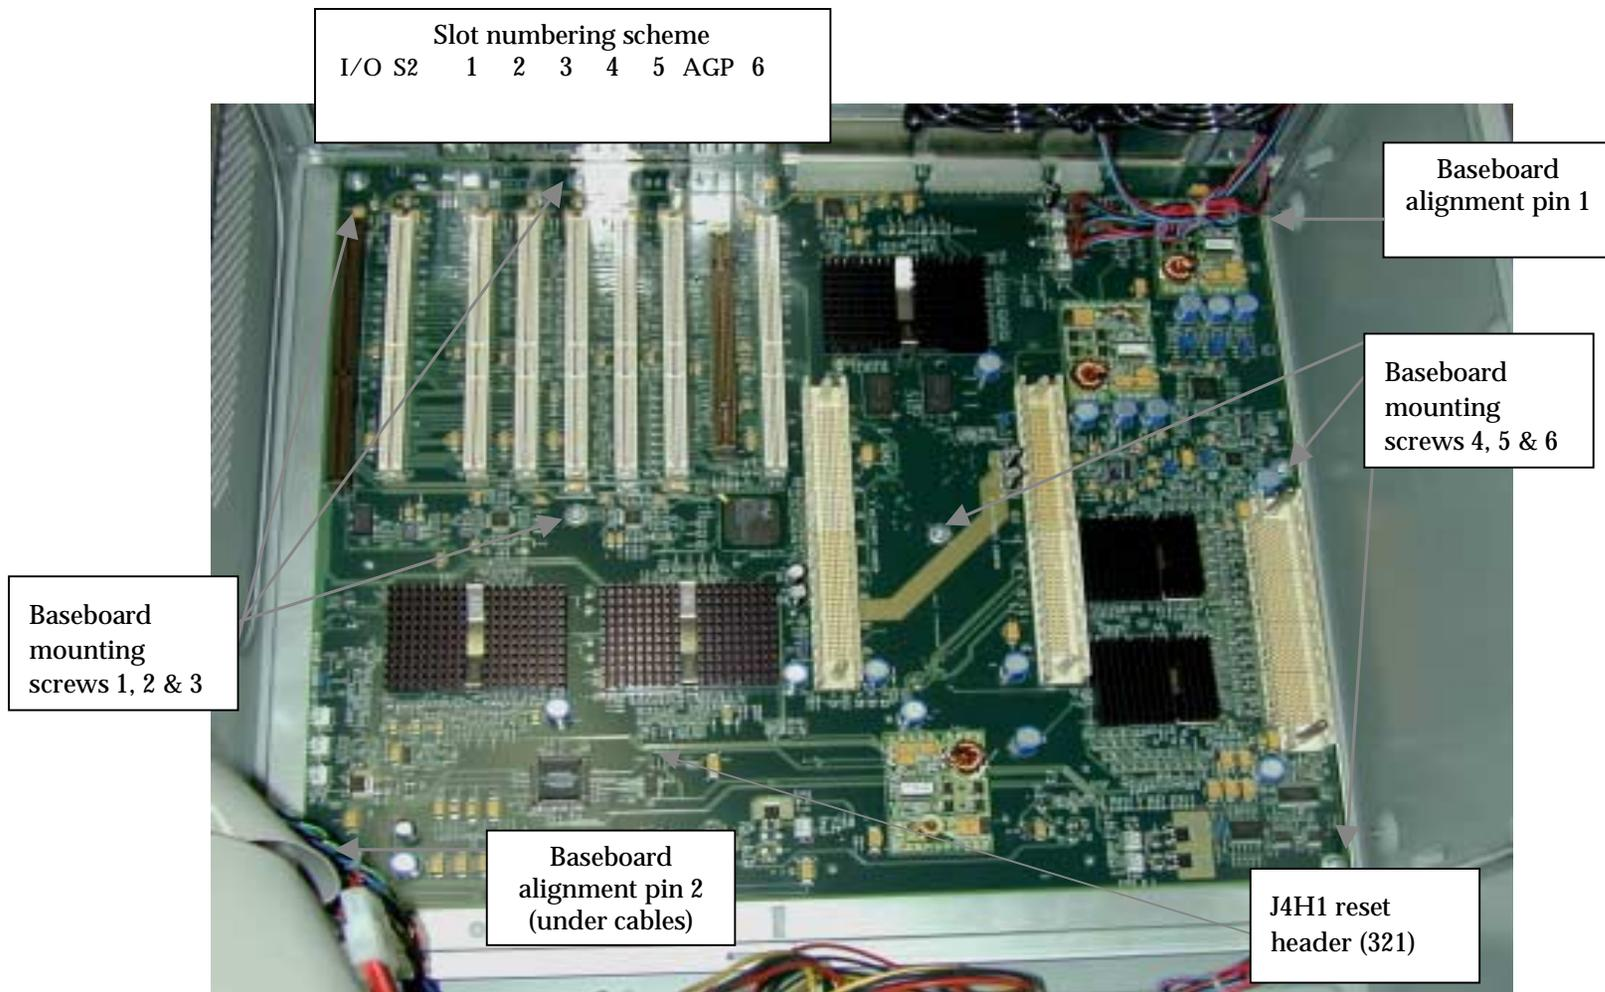

Figure 11 Baseboard mounting screw locations
16. Remove the six (6) remaining screws securing the Baseboard to the chassis and then remove the Baseboard from the system chassis. (Refer to Figure 11 for mounting screw locations).
After verifying that the jumpers on the Baseboard and the I/O board are correctly set, insert the new baseboard into the system chassis and center the board utilizing the baseboard alignment pins 1 and 2 as shown in Figure 11. Now, using the following steps:
1. Apply a small amount of downward pressure to “press fit” the baseboard onto the alignment pins. The remaining six (6) baseboard mounting holes must now be aligned properly. Insert the six- (6) baseboard mounting screws and secure the baseboard to the chassis. (Refer to the locations in Figure 11).
2. To install the reset switch, position the switch in an unused slot, such as Slot #1 (refer to Figure 11 for location of Slot #1).
4. Orient the connector so that the *red lead wire* connects to pin #1 and the *black lead wire* connects to pin #2 on the Baseboard header J4H1 (refer to Figure 11).
1. Locate PCI Slot #3 J3B1 on the baseboard. (Refer to Figure 11 for location).